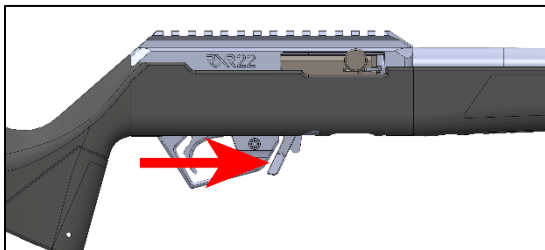

Figure 8
- Keeping your finger away from the trigger and outside of the trigger guard, be prepared to catch the magazine with one hand and press forward on the magazine latch to remove the magazine— Figure 8. It should drop free from the firearm with little effort.